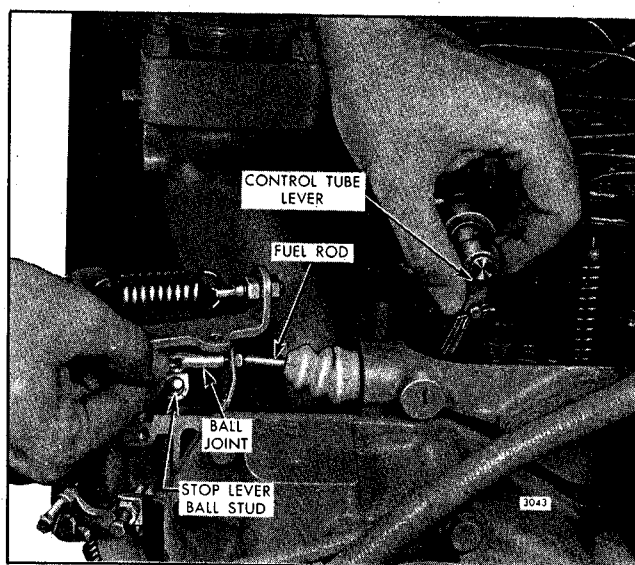

Fig. 4 - Adjusting Fuel Rod Length
7. Loosen the nut which locks the ball joint on the fuel rod. Hold the fuel rod in the full-fuel position and adjust the ball joint until it is aligned and will slide on the ball stud on the stop lever (Fig. 4). Position the shutdown